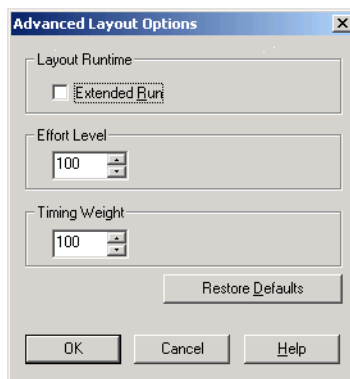

Figure 2-27. *Advanced Layout Options (SX, SX-A, and eX)*
3. **Set your Advanced Layout options (Optional).** Click the *Advanced* button in the Layout dialog box. This displays the Advanced Layout Options dialog box, as shown in Figure 2-27.